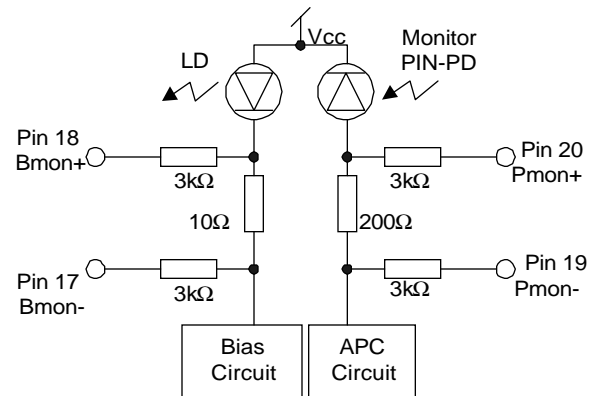

Figure 3 Bmon and Pmon Interface
2. Refer to figure 3 for details of Bmon and Pmon outputs.
8. The Laser Bias Monitor Current and Rear Facet Monitor Current are calculated as ratios between the corresponding voltages and current sensing resistors, 10Ω and 200Ω , as shown in the figure 3.